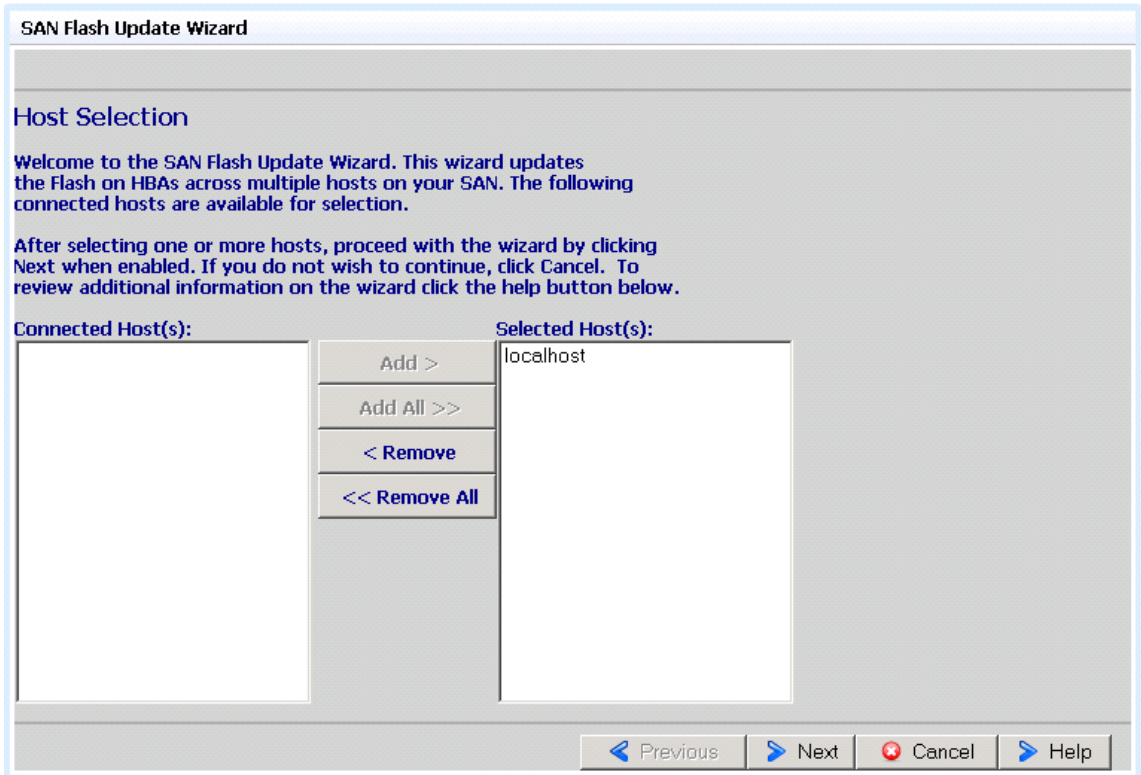

Figure 93 SAN Flash Update Wizard, Add localhost
This will start the **SAN Flash Update Wizard**, as shown in Figure 93.
4. In the **Connected Host(s):** column, select **localhost** and click **Add >** to move it to the **Selected Host(s):** column, as shown in Figure 93.